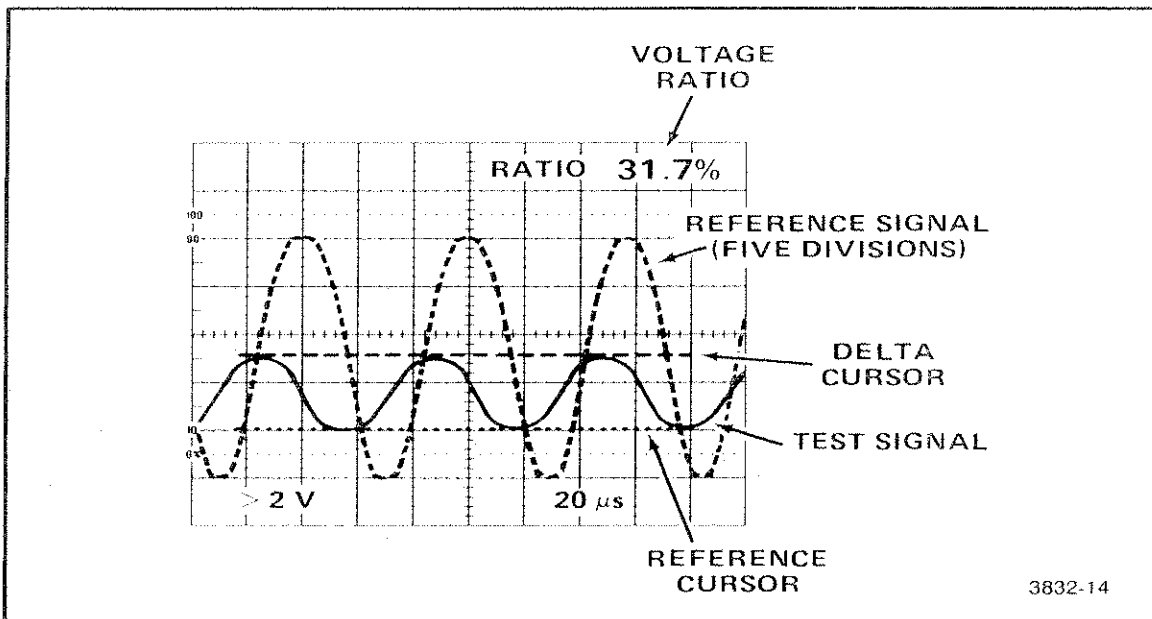

Figure 3-2. Voltage ratios.
5. Activate ΔV , align the cursors with the points of interest on the waveform, and read the ratio (see Figure 3-2).